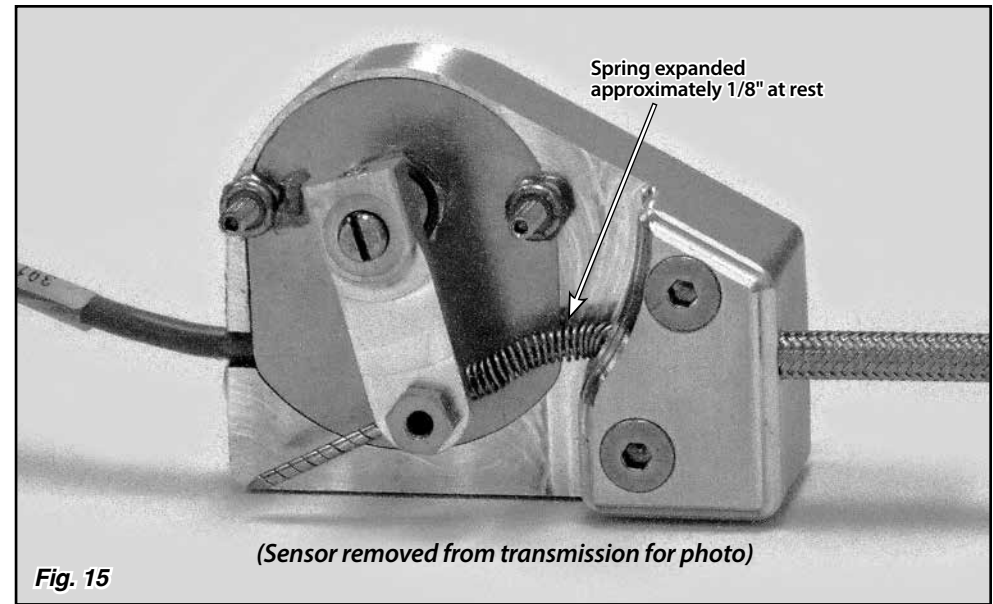

Fig. 15
- All applications with the trans arm pointing DOWN: Push the sensor arm as far as it will go until the spring is completely compressed. Then, let the spring expand approximately 1/8". Fig. 15 While holding that position, tighten the set screw in the index cable stop on the sensor arm using a 1/16" Allen wrench.